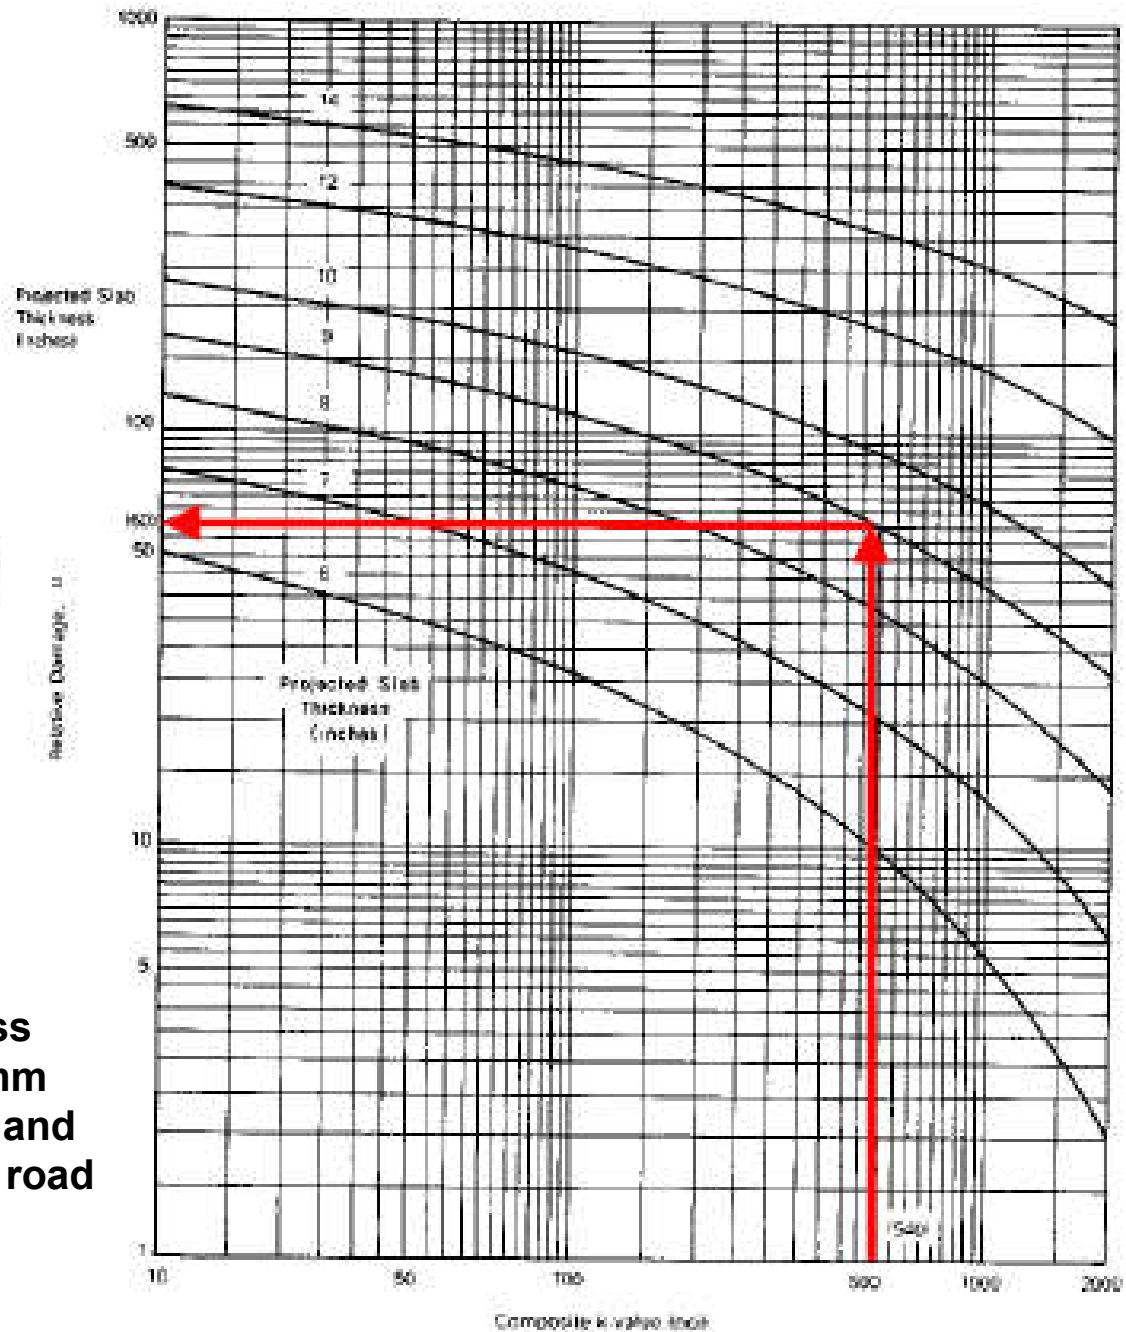

Figure 3.5. Chart for Estimating Relative Damage to Rigid Pavements Based on Slab Thickness and Underlying Support
- Estimate required thickness of slab (Figure 3.5) and determine relative damage u_r for each season
- Use average u_r to determine effective k (Figure 3.5)